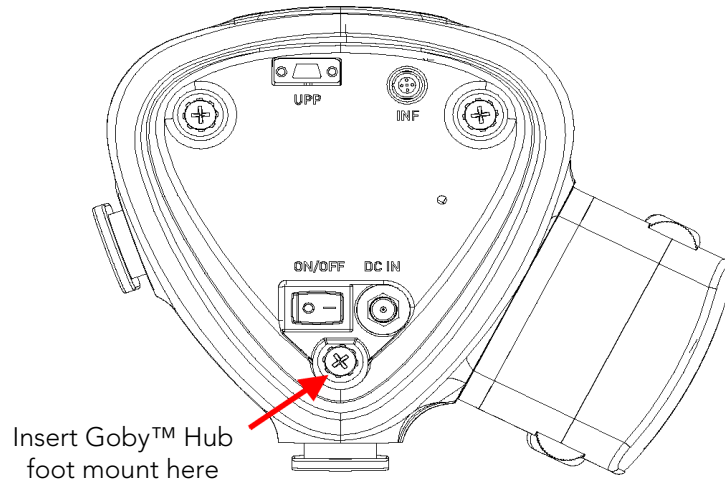

Figure 7: Goby Hub – Foot Mount Insertion Point
- Attach the foot mount onto the **Goby™** Hub using the opening behind the power switch of the **Goby™** Hub as the insertion point (Figure 7). **Do not insert the foot into the other Goby™ Hub openings.**